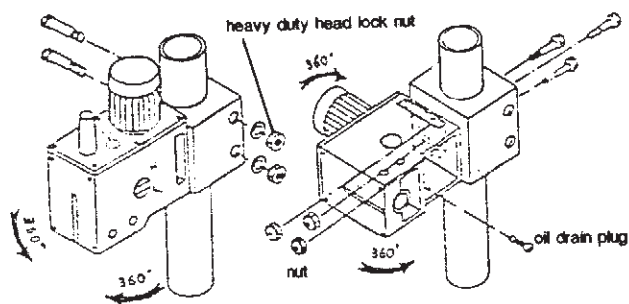

Figure 3. Adjusting the Head
1. To raise or lower the head, loosen the 2 heavy duty head lock nuts shown in *the left part of Figure 3*. Use the left side head handle to raise or lower the head on its rack and pinion mechanism.
2. The head may be rotated 360° by loosening the same bolts mentioned in item 1. Adjust the head to the desired angle, then fix the heavy-duty head lock nuts. Periodically check the tightness of these nuts, especially during prolonged use of the machine.
3. You may set the head at an angle by loosening the three nuts shown in *the right part of Figure 3*. Retighten the nuts when you have set the angle at the desired degree. Refer to the scale on the right side of the head to read the angle.